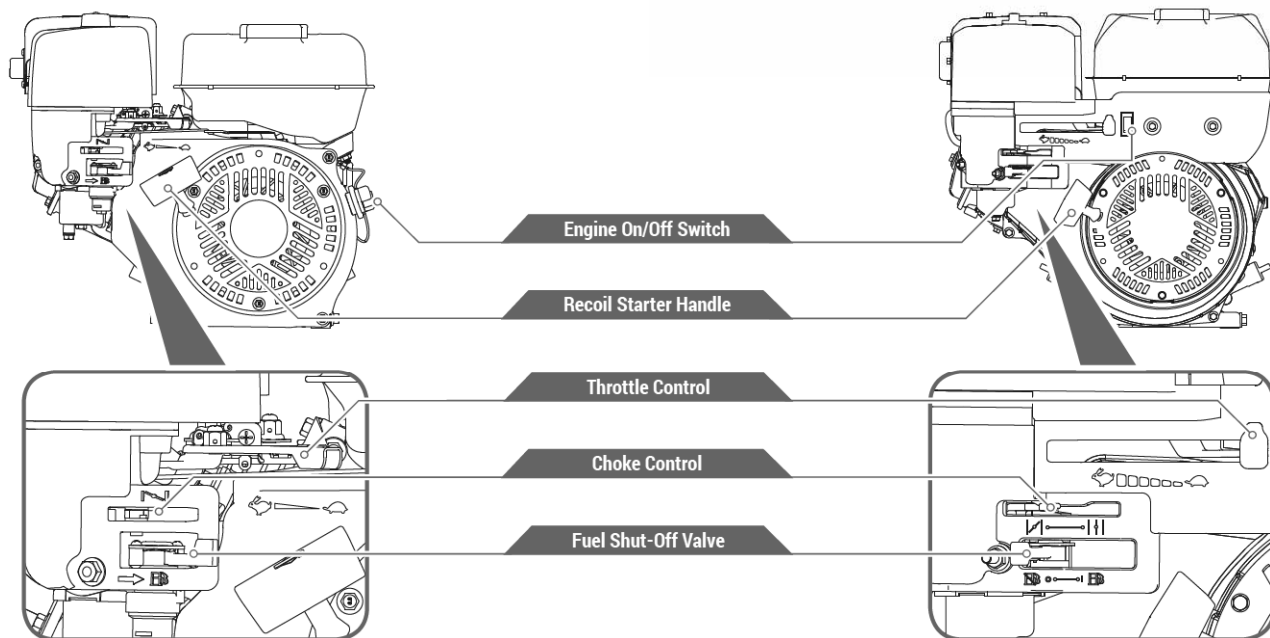

**Figure 11b**
2. To use the 6-way wedge, simply slide it on top of the 2 way-wedge and secure it with the pin shaft and the cotter pin. (See **Figure 11b.**)